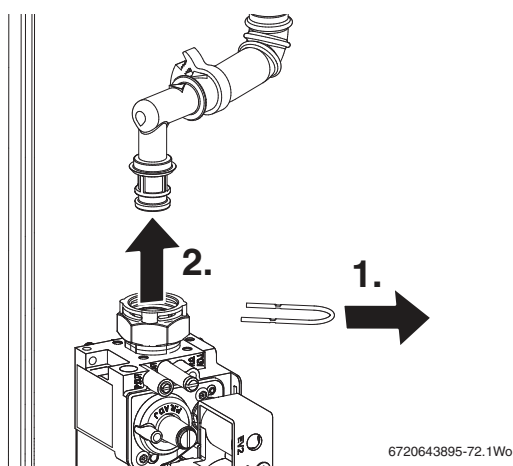

Fig. 84 Gas valve connection
1. Refer to figure 84 and remove the clip from gas valve outlet.